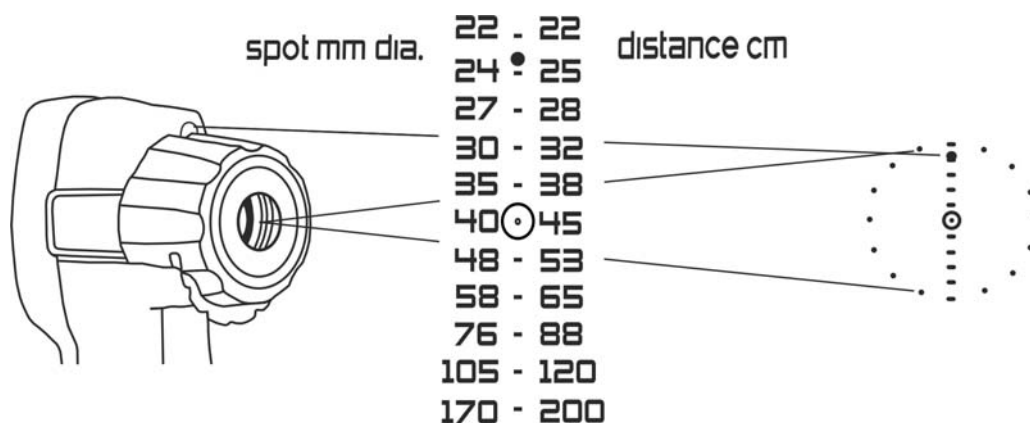

Fig. 15: Laser pointer activation
4. Press and hold keep the Trigger key **T** to activate the instrument and direct it towards the surface of the object whose temperature must be measured. The laser pointer on the upper part of the instrument (see Fig. 1 – part 1) and the area laser beam are directed towards the target (see Fig. 15).